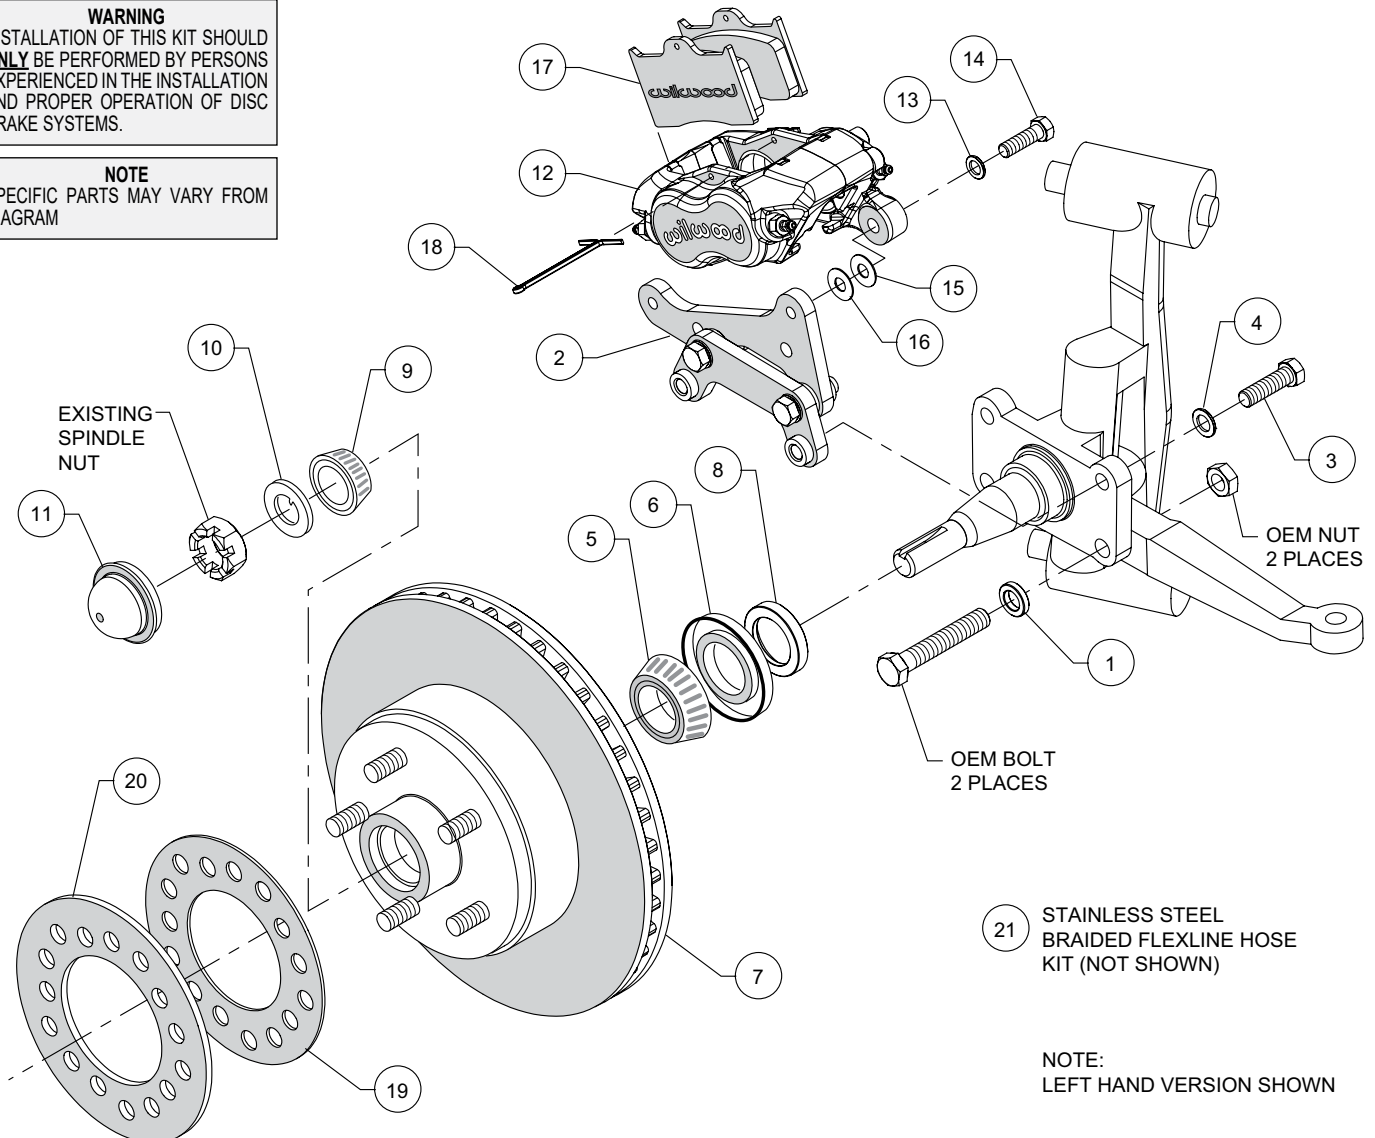

Figure 1. Typical Installation Configuration
NOTE: Numbers in parenthesis refer to the parts list and Figure 1 on the preceding pages.
- One at a time, remove the two lower OEM bolts that secure the steering arm from the back side of the spindle. Place spacer (1) on each bolt on the outboard side of spindle face and reinstall using OEM nut as shown in Figure 1 and Photo 1. Torque nut to manufacturer's specifications.
- Orient the caliper mount bracket (2) as shown in Figure 1 and Photo 2, and install using bolts (3) and washers (4). Ensure that the flanged heads of the clinch nuts in the bracket are facing outboard, Photo 2. Temporarily tighten the mounting bolts. **NOTE:** The bracket must fit squarely against the mount bosses on the upright. Inspect for interference from casting irregularities, machining ridges, burrs, etc. Remove bolts one at a time, apply red Loctite® 271 to the threads and torque to 60 ft-lb.
- Press the dust cap (11) into the hub (7). **NOTE:** Do not hammer center of cap. Install using outer flange only.
- NOTE:** Please reference the caution statement at the beginning of the assembly instructions. Mount the caliper (12) onto the caliper mounting bracket (2) using bolts (14) and washers (13), as shown in Figure 1. Initially place one .035" thick shim (15) and one .016" thick shim (16) on each bolt between the caliper and the bracket, Photo 6. Temporarily tighten the mounting bolts and view the rotor (7) through the top opening of the caliper. The rotor should be centered in the caliper, Photo 7. If not, adjust by adding or subtracting shims (15 and/or 16) between the bracket and the caliper. Always use the same amount of shims on each of the two mounting bolts. **NOTE:** The end of each bolt must be